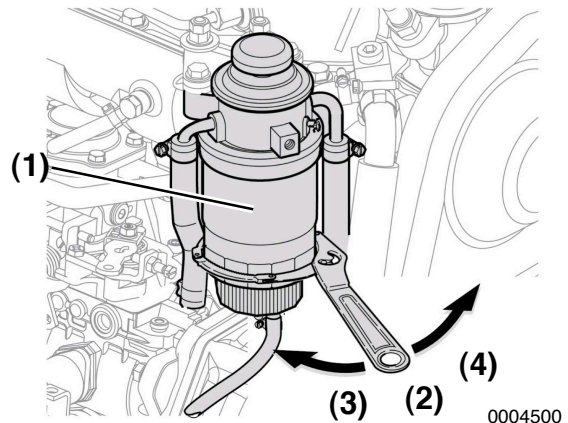

Figure 14
- Remove the filter housing **(Figure 14, (1))** with a filter wrench **(Figure 14, (2))**.